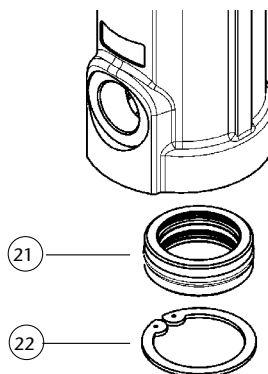

Fig. 11
1. Follow the procedure for the air motor until the air piston (10) is outside the air motor body.
2. Remove the circlip (22) and the packing set (21) (fig. 11) from the air motor body. Replace in case of damage.